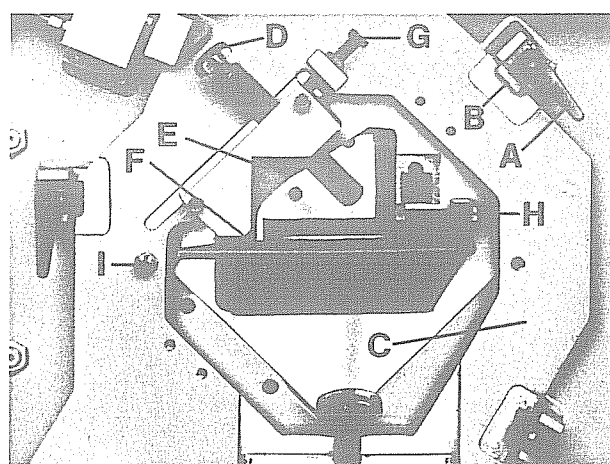

Fig. 38: Hold-down KBLH 500/700: design for PMG blades
b) KBLH 500/700: Loosen clamping lever "A", push supporting bracket "B" outwards, and tighten again. Remove hold-down plate "C" to the front (Cf. fig. 38).
(. . fig. 38)
In case the cut will not be done at exactly right angle or 45° , adjust by means of the screws "H" (for 90°) and "I" resp., or slightly shift the pressure piece (for 45° cuts). Cf. fig. 38.